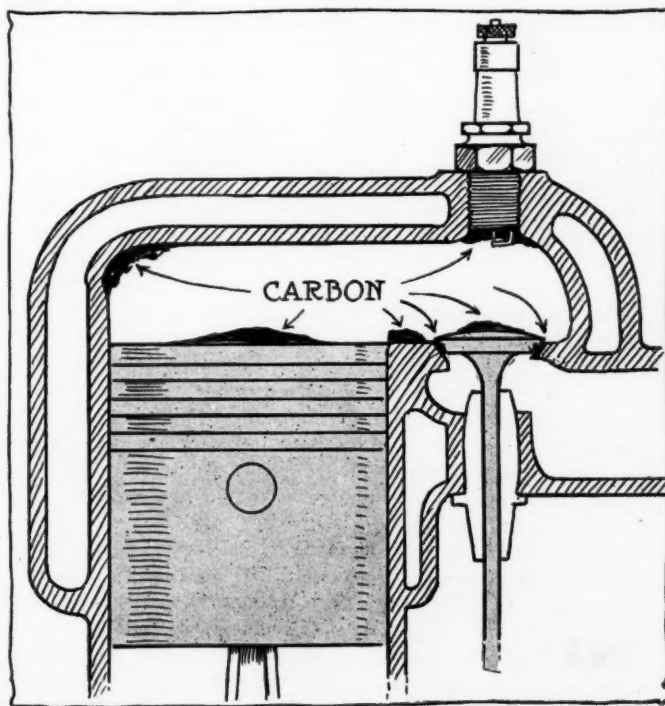

Fig. 1—Where carbon deposits are prone to gather
8. These individual truck cards are 8 by 6 inches, reddish brown paper being used, which is printed with black type and lined with red and blue inks. Fig. 1 shows the front side of this blank and Fig. 6 the reverse. It is filled out, when a vehicle starts in service, with the number assigned to it and the manufacturer's number. Besides the type, capacity, dimensions and all other significant details are given on this record. There is space on it for the entries of the license numbers used for the truck during 12 years, so that the card may serve without difficulty throughout the life of the vehicle. On the reverse of the card, Fig. 6, there are eleven columns, the first being printed with the names of the 12 months, while all others are alternately marked Miles and Kilowatt Hours, the years being filled in at the top of each column.